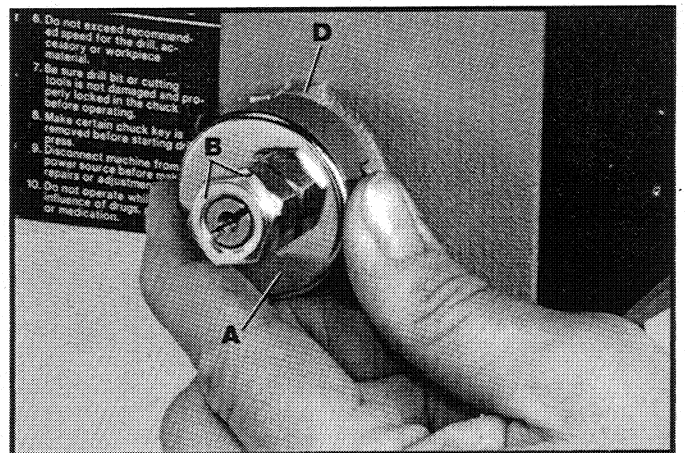

Fig. 36
3. While firmly holding spring housing (A) Fig. 36, pull out housing and rotate it until the boss (D) is engaged with the next notch on the housing. Turn the housing counter-clockwise to increase and clockwise to decrease spring tension. Then tighten the two nuts (B) to hold the housing in place. **IMPORTANT:** Nut (B) should not contact spring housing (A) when tight.